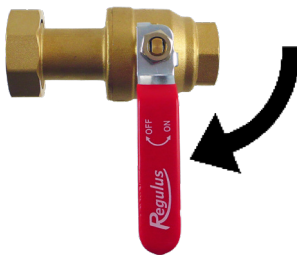

Fig. 1
1. Close the ball valve by turning the lever by 90° in the direction of the OFF arrow (Fig. 1).